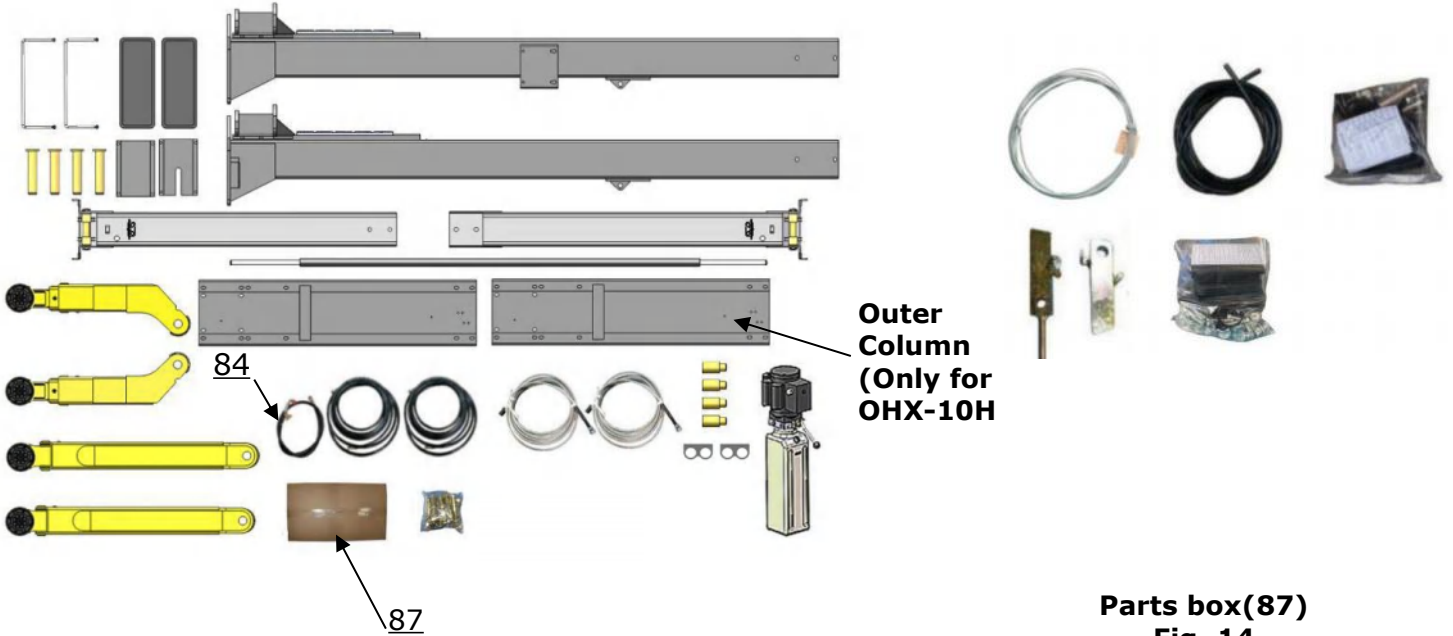

Fig. 13
3. Move aside the parts and check the parts according to the shipment parts list **(See Fig.13).**